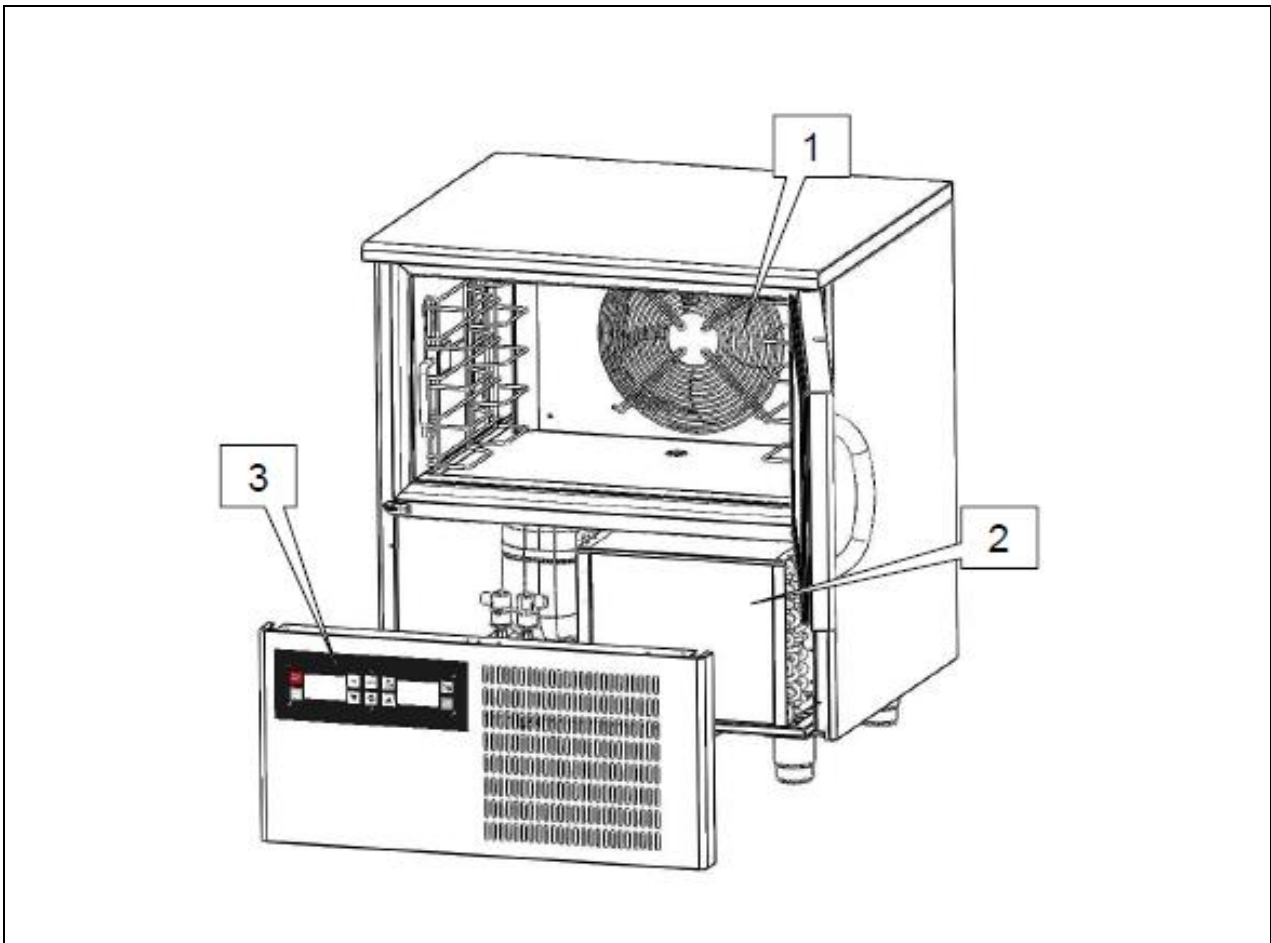

Fig. 3
- condenser unit (ref. 2, fig. 3);
- evaporator unit (ref. 1, fig. 3);
- control panel (ref. 3, fig. 3)